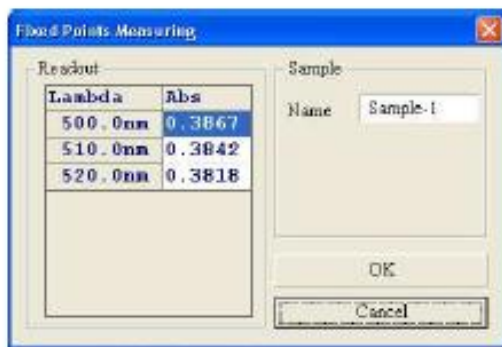

Fig. 4-4
16. Place a sample in the sample compartment. Click start or  to run a new measurement. The display will change to the following (Fig 4-4). Key in the sample name in the name box.